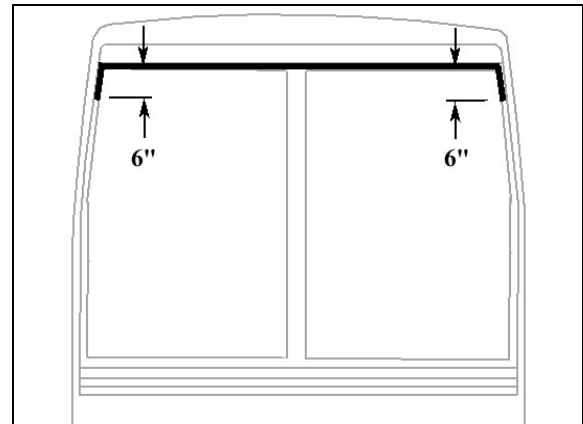

FIGURE 50: APPLICATION OF SIKA 221 BLACK
7. At the top of windshield, clean surface between fiberglass and rubber extrusion using Sika 205 (Fig. 50).